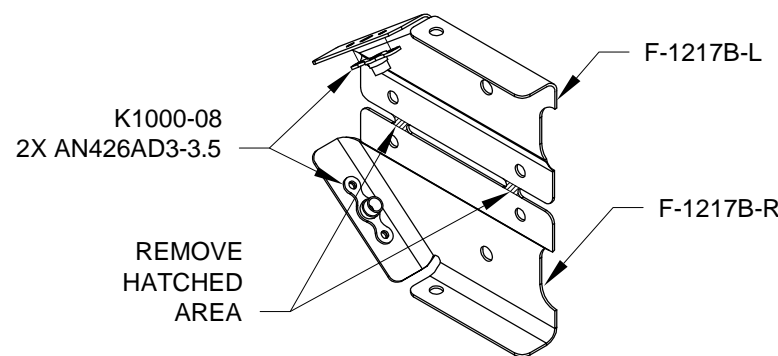

FIGURE 2: RUDDER PEDAL ACCESS COVERS
Step 3: Make the F-1217B-L and -R Rudder Pedal Access Covers by removing the hatched area from the F-1217B Rudder Pedal Access Cover as shown in Figure 2. Deburr.
Step 4: Dimple the nutplate rivet hole locations in the the F-1217B-L and -R Rudder Pedal Access Covers and in the nutplates. Rivet the nutplates to the rudder pedal access covers as shown in Figure 2.